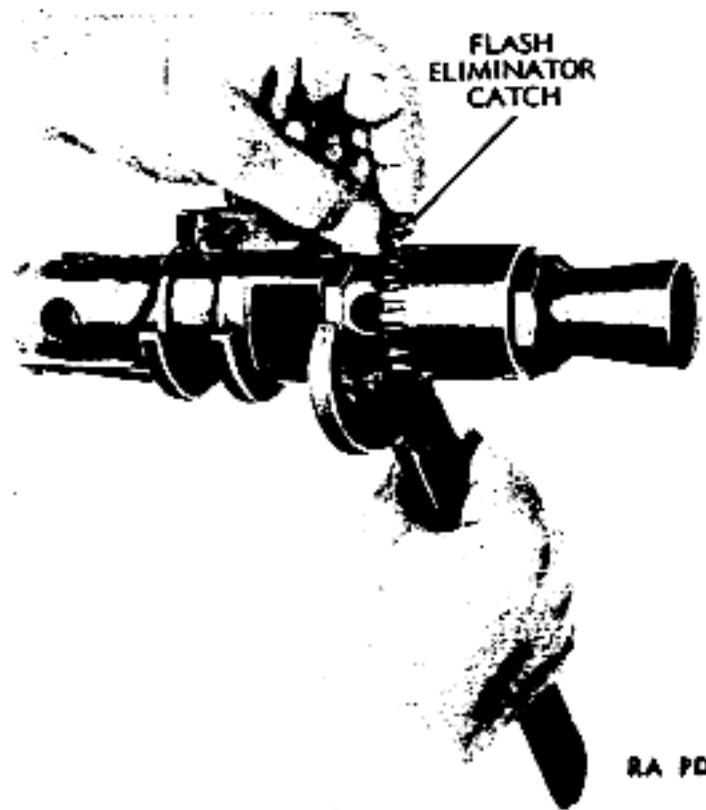

Figure 53 — Removal of Blast Trap and Flash Eliminator
g. Flash Eliminator and Blast Trap. Raise the front end of the flash eliminator catch and with an open wrench (or by hand) and unscrew the flash eliminator together with blast trap (fig. 53). The threads are right-hand.